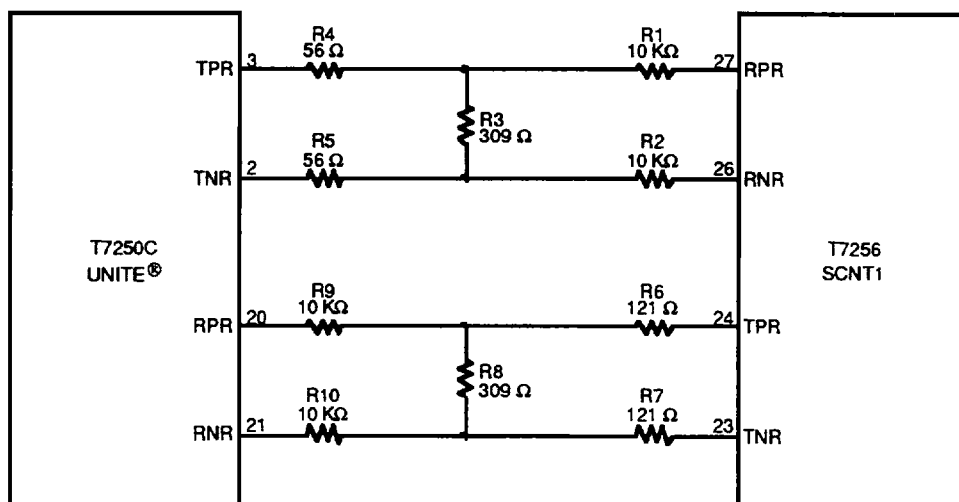

Figure 22. T7234 to T7250C Direct Connection
- A32:** If no external S/T-interface connection is required, the T7250C and T7234 can be directly connected as shown in the following diagram. If it is required to be able to connect an external TE, the circuit shown in Figure 22 can be used.